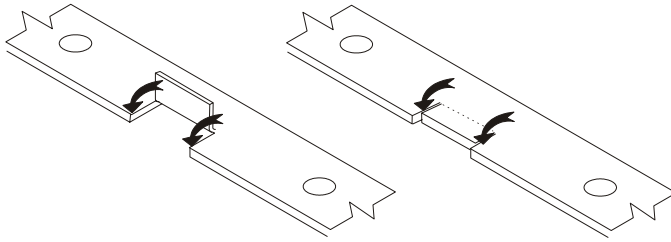

Figure 1.2
- Bend the PCM locating tab on the fender down so that it is flush with the surface (Figure 1.2).